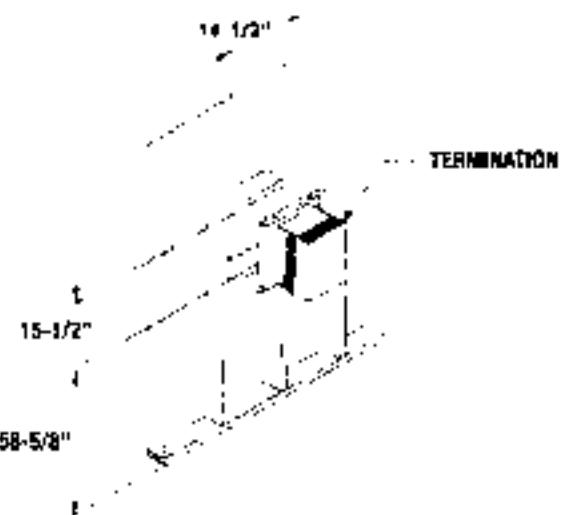

FIGURE 4-3
- 3) Locate the position where the vent passes through the wall and frame a 15-1/2" x 14-1/2" opening for the termination. See figure 4-3 for framing location and page 32 for restrictions.